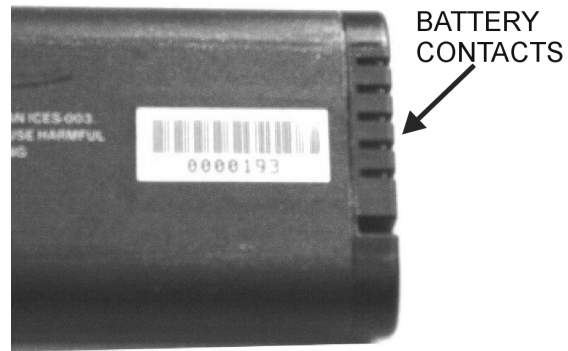

Figure 6-4. Battery Contacts
5. Replacement is the opposite of removal. Note the orientation of the battery contacts, and be sure to insert the new battery with the contacts facing the bottom of the unit (Figure 6-4).